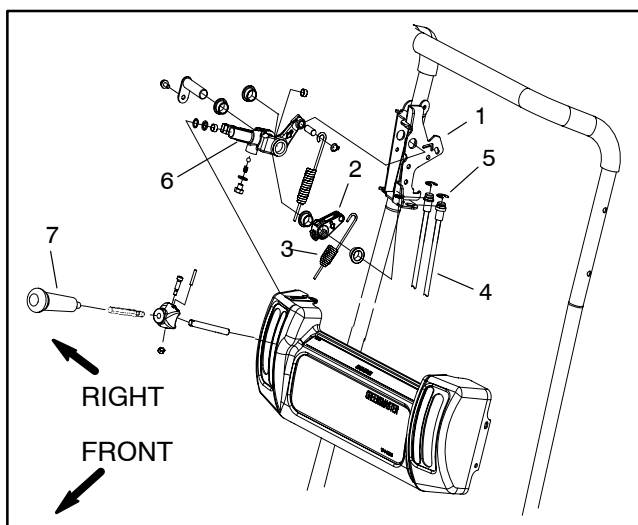

Figure 10
4. Remove reel control cable from the reel control lever as follows (Fig. 10):
1. Secure reel control cable to the reel control lever (Fig. 10):